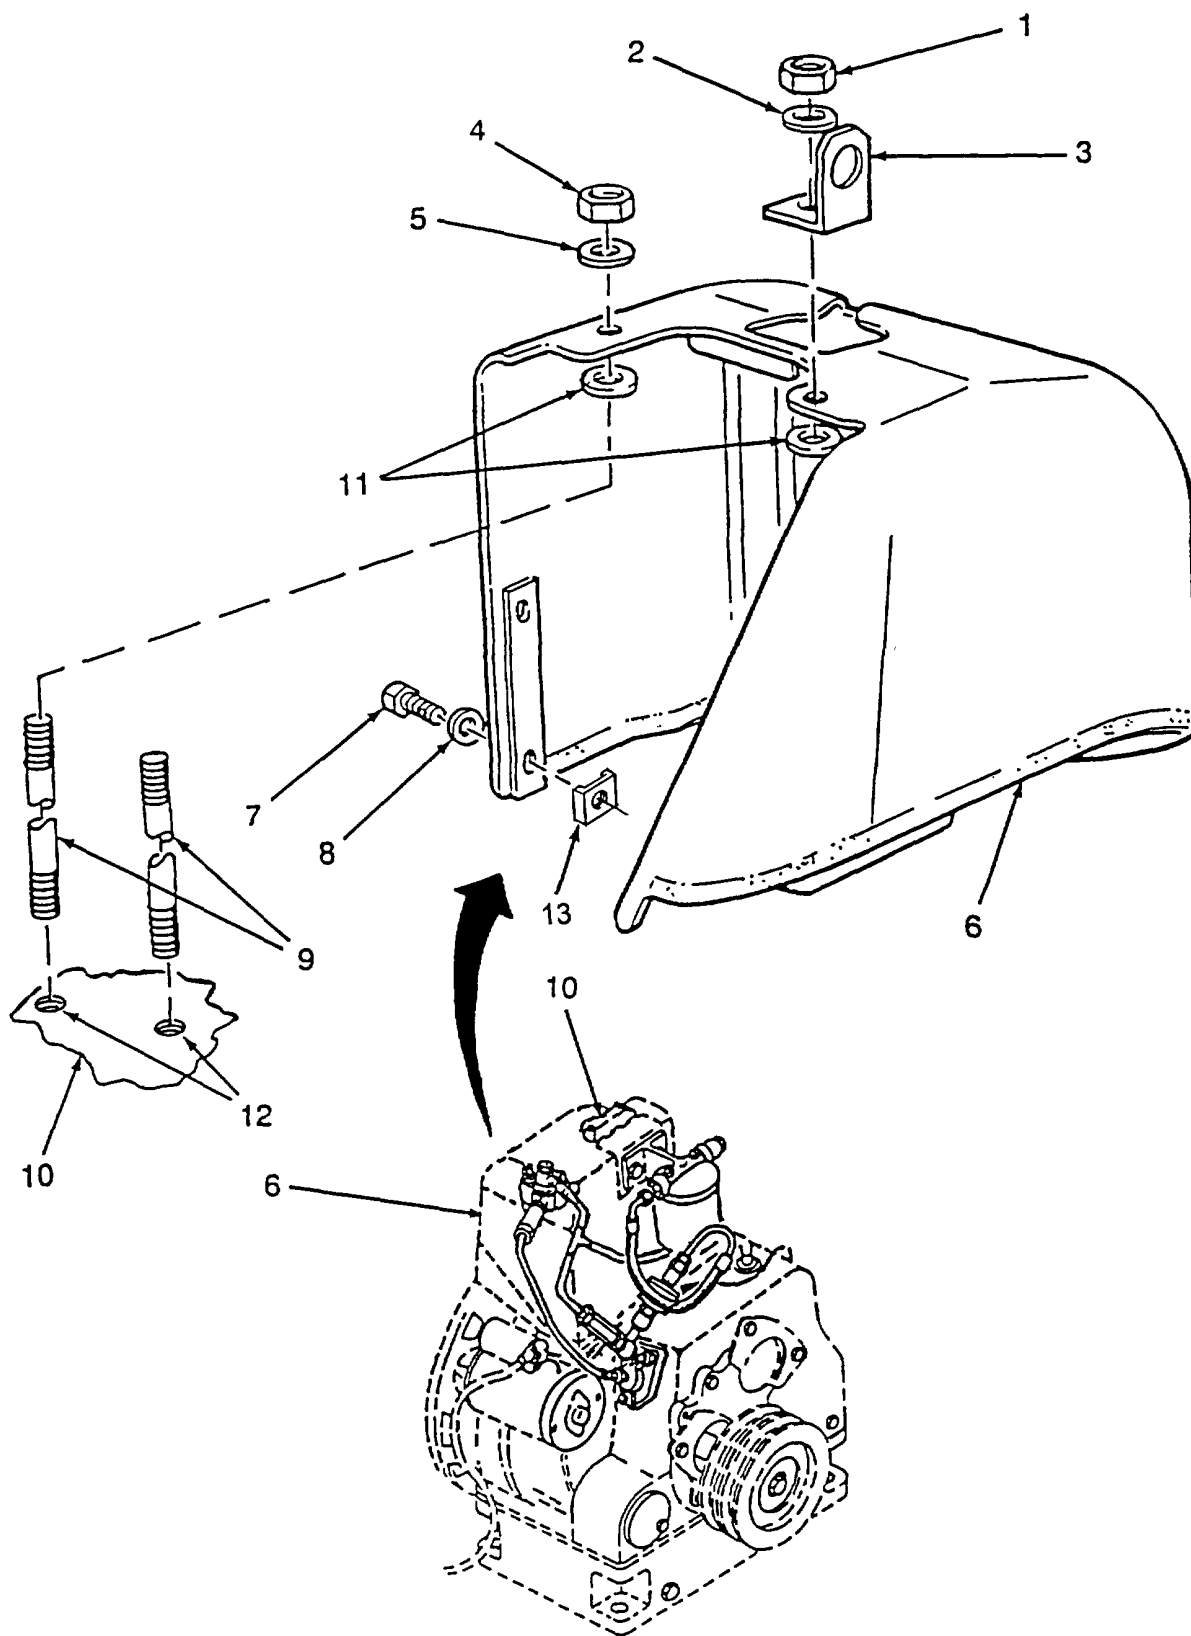

Figure 5-20. Engine Air Cowling
(1) Removal. (Refer to Figure 5-20).
- (a) Remove nut (1), washer (2) and lifting eye (3).
- (b) Remove nut (4), washer (5) from top of engine air cowling (6).
- (c) Remove two cap screws (7), two washers (8) from side of engine air cowling (6).
- (d) Remove engine air cowling (6) and washers (11) from studs (9) on cylinder head (10). Remove captive nuts (13) from cowling (6)
- (e) Remove stud (9) from cylinder head (10).
(2) Repair.
- (b) Clean threads (12) in cylinder head (10) with thread-cutting tap.
(3) Installation.
- (a) Install studs (9) into cylinder head (10) and install two washers (11) on studs (9).